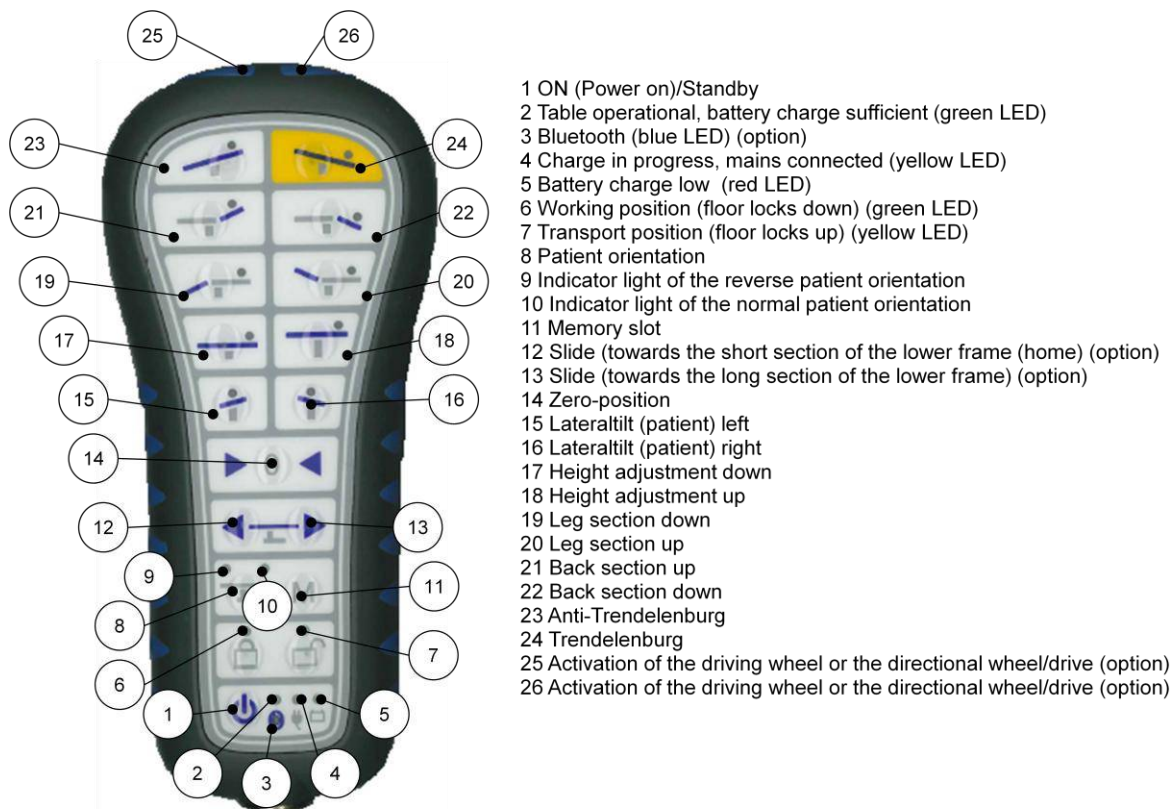

Figure 5: Hand control
Both hand controls have the same buttons and symbols (Figure 5). Controls operate in parallel e.g. indicator LED's illuminate identically on both controls. However you cannot select functions simultaneously with both hand controls i.e. you can operate the table only with one hand control at a time.
When the Bluetooth-control is connected to a operating table, it will be coded (paired) with the table in question. This means that the control cannot be used with any other Scandia operating tables without recoding. In order to code the control, connect it to the table with the cable on the main panel. Turn the main switch to OFF-position and then back to ON-position. Wait 5-10 seconds after which the control is ready to be used. Detach the hand control from the cable and turn it on from the ON/StandBy button (Figure 5 (1)). The indicator LED on the Bluetooth control starts to flash (Figure 5 (3)) and the control starts to establish the wireless connection. Usually this will take few seconds. When the connection is established, before mentioned LED stays ON and the control can now be used wirelessly. The operating range of the Bluetooth control is 5-10 meters in an open space. If the connection cannot be established (usually due to interference or obstacles) approx. within 8 seconds, the control will turn off. Press ON/StandBy button in order to retry establishing the connection.